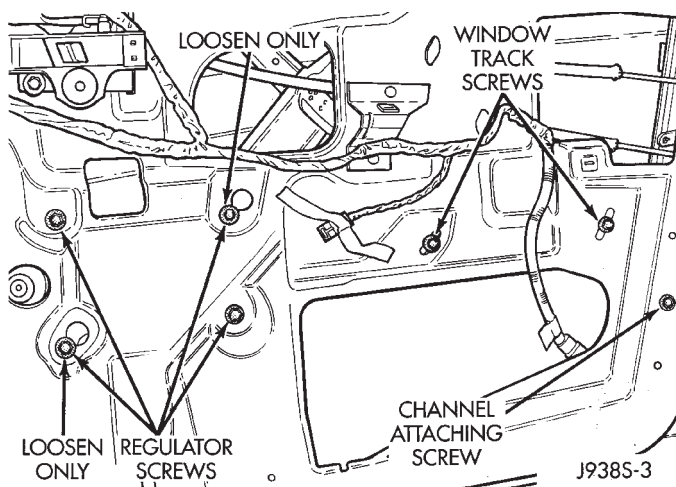

Fig. 7 Front Door Window Regulator
- (4) Remove 4 window regulator retaining screws (Fig. 7).
- (5) Remove 2 door track screws (Fig. 7)
- (6) Lift window upward and separate it from regulator. Support window.
- (7) Remove window regulator from door.